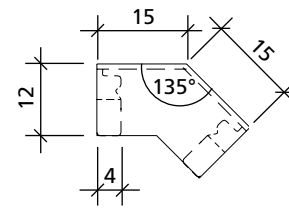

Fig. 26.2
■ Inside corner 15 cm (Fig. 26.2).